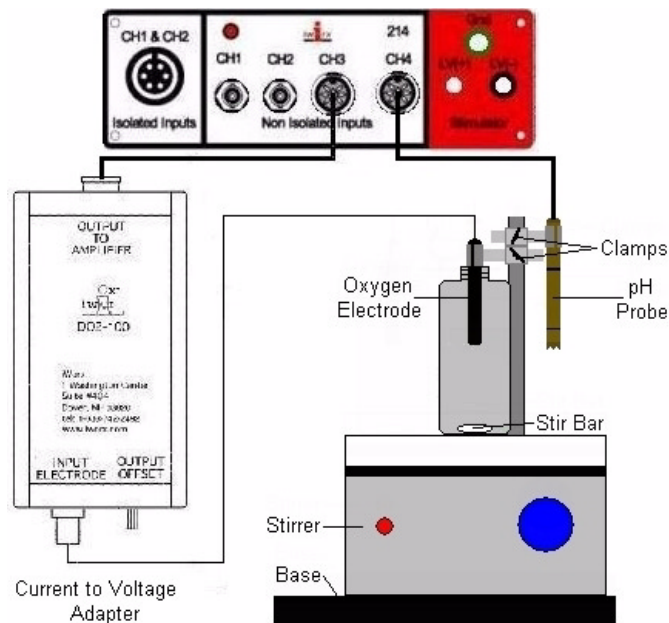

Figure GB-3-1: The setup for recording oxygen concentration levels and pH in a small closed ecosystem using the iWorx/214.
- 1 Plug one end of the DIN-DIN cable into Channel 3 on the iWorx unit. Plug the other end of this cable into the DIN connector on the DO2-100 current to voltage adapter (Figure GB-3-1 on page 2).
- 1 Place a magnetic stirrer on or next to the base of a ringstand. Open the first water sample bottle and place a stir bar in the bottle. Place the cap on the bottle and turn it until it is tight. Turn on the stirrer and position the stir bar in the center of the bottom of the bottle (Figure GB-3-1 on page 2). Turn off the stirrer before Step 2.